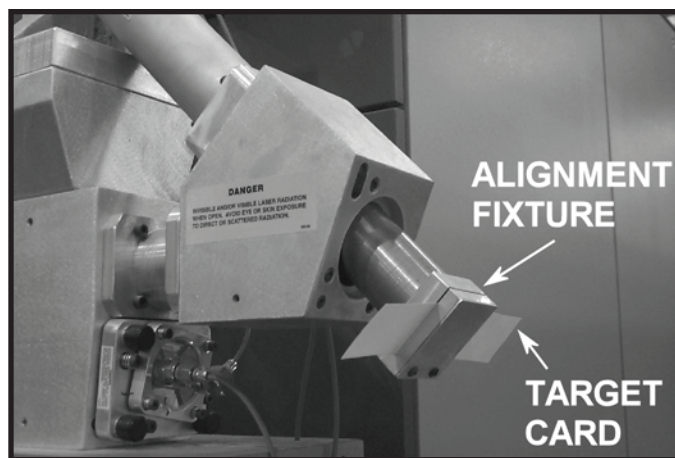

FIGURE 9-16 Second external mirror alignment
3. Install the alignment fixture in the second mirror housing and insert a target card (See Figure 9-16).